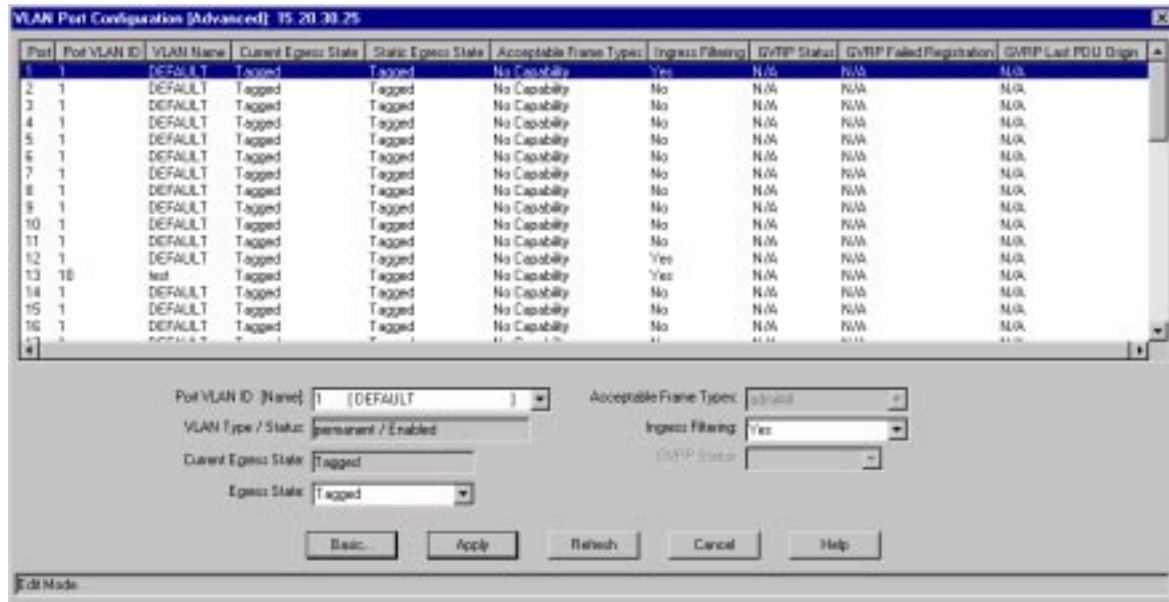

Figure 2-31. The VLAN Port Configuration (Advanced) Window
3. At the bottom of the VLAN Port Configuration window, click the **Advanced** button. The VLAN Port Configuration (Advanced) window, Figure 2-31, appears: